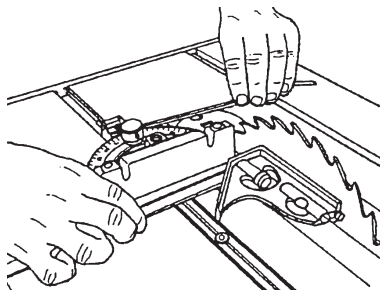

Figure 59
- a. Use a Long Allen Wrench to loosen the Lock Knob and adjust the Miter Gauge so it is perpendicular to the Saw Blade, then tighten the Lock Knob. See Figure 59.